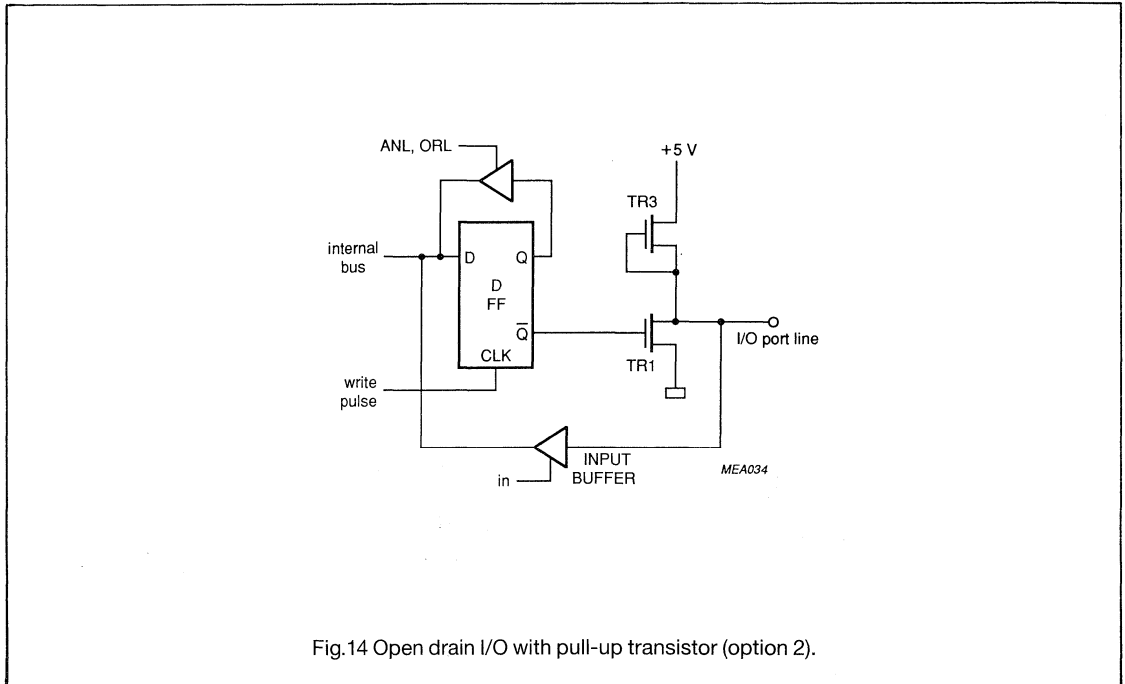

Fig.14 Open drain I/O with pull-up transistor (option 2).
- **Option 2** OPEN DRAIN I/O WITH PULL-UP; open drain output with pull-up transistor, TR3 (see Fig. 14).